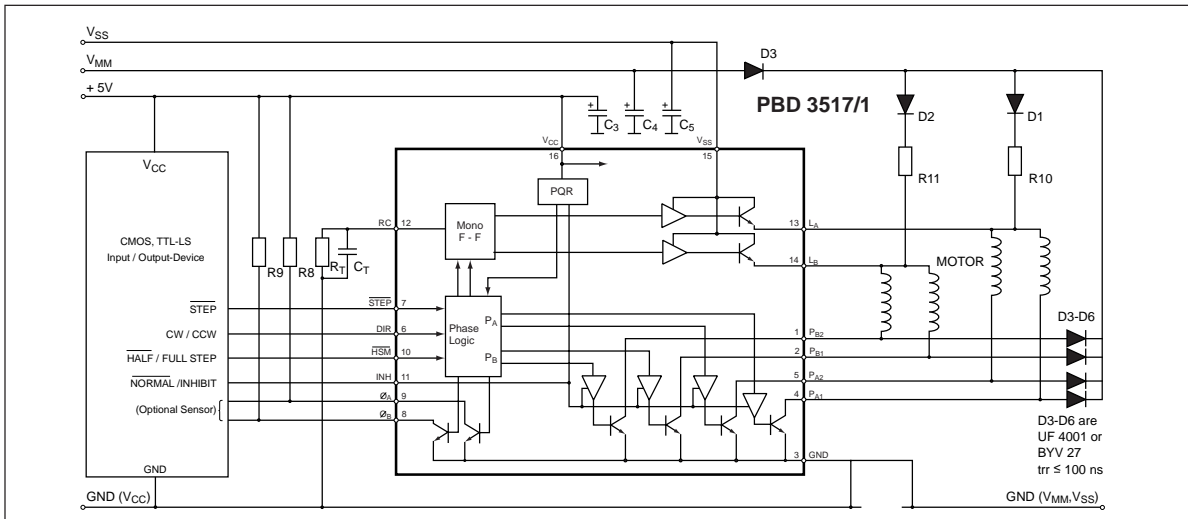

Figure 14. Typical application.
In a low-voltage system, where high motor performance is needed, it is also possible to double the motor voltage by adding a few external components, see figure 14.
For figures 14 and 15. Note that “Larger than ...” is normally the vice versa of “Smaller than ...”.
The phase outputs are connected directly to the motor as shown in figure 14.
- A bipolar motor without a center tap is used. Exchange motor for unipolar version. Connect according to figure 14.